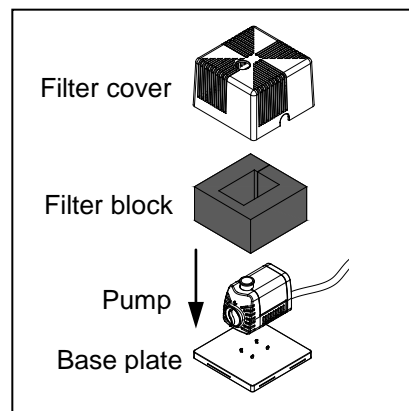

Fig. 1
1. Assemble the base plate, pump, filter block and filter cover. Fig. 1